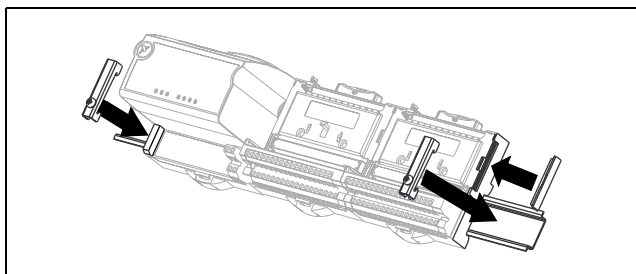

Figure 3. Adding Rail Locks and Protective Cover
- Place the protective cover onto the local bus connector of the last terminal base on the bank, as shown in Figure 3. Add rail locks by sliding them on and tightening the screws.